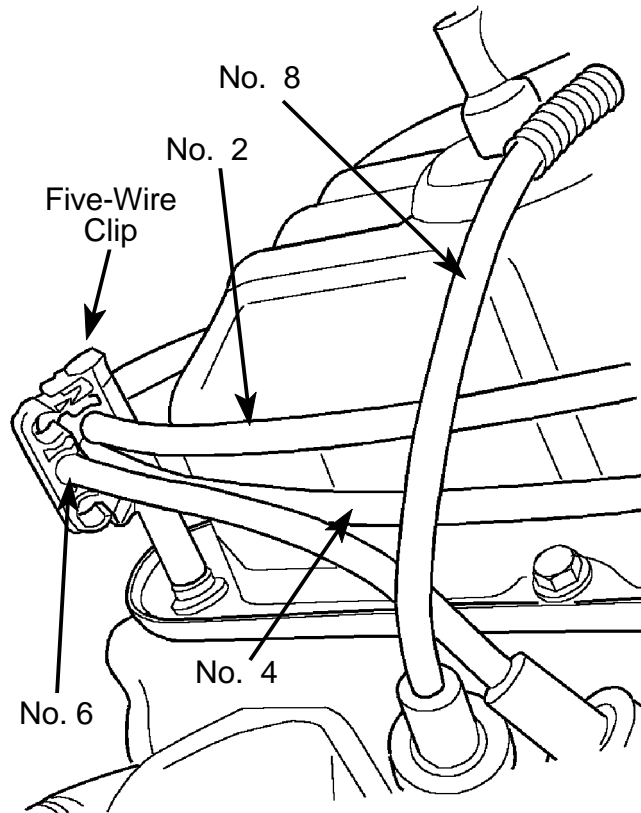

FIGURE 6
- C. At the five-wire clip (located at the right rear lower side of the valve cover), keep the plug wires from crossing and chafing each other. Position the No. 4 cylinder plug wire in a slot that will obtain the maximum amount of distance allowable from the No. 8 cylinder plug wire (Figure 6). Remove any slack in